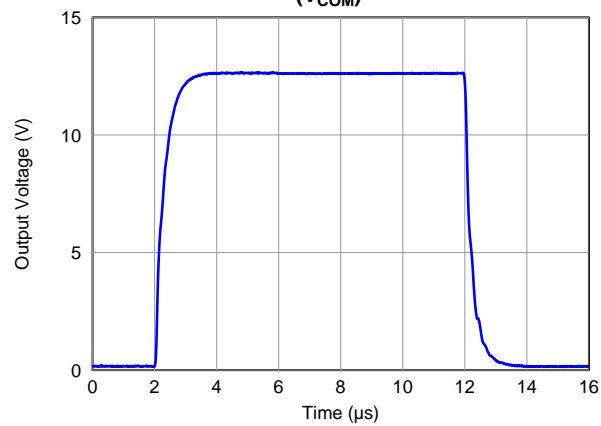

Figure 19.
(1) The BUF08630 V_{COM} DAC limits can be programmed. These default limits apply if the device is not programmed. See the Programmable Vcom Limits section.
(2) See Figure 19, Large-Signal Step Response, \$V_{COM}\$ .
(3) Observe maximum power dissipation.
(4) The V_{COM} output voltage is limited to codes 0 to 960 because of the common-mode input range of the V_{COM} amplifier. This limitation is for V_{COM} only; it does not affect DAC OUT1 to 8.